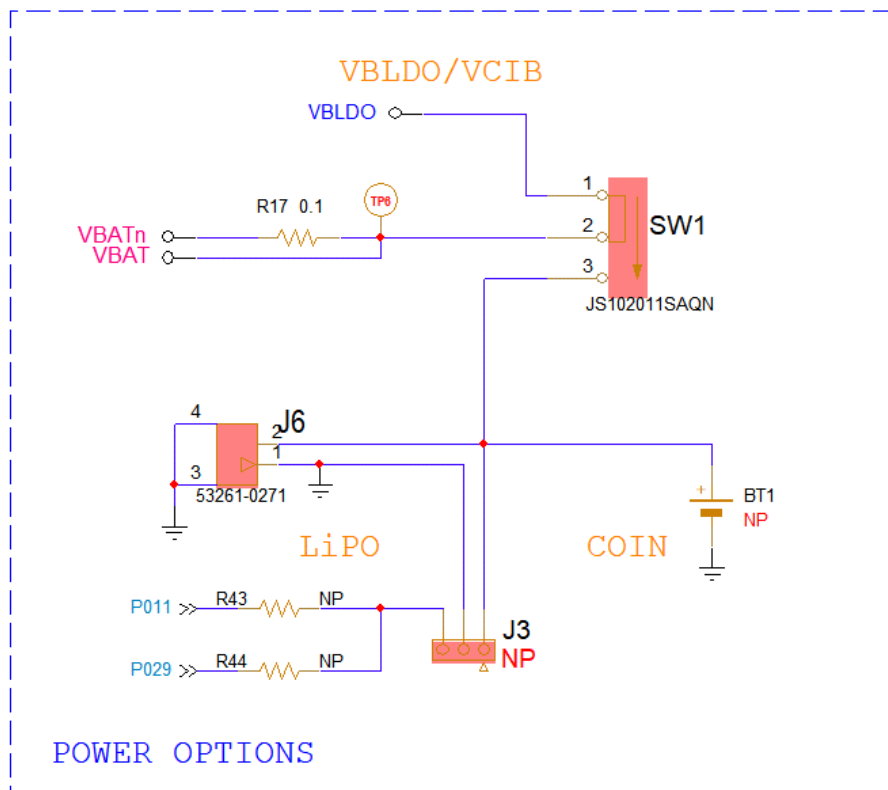

Figure 57: PRO-Daughterboard Power Options
- Battery/Power connectors (shown in Figure 57):